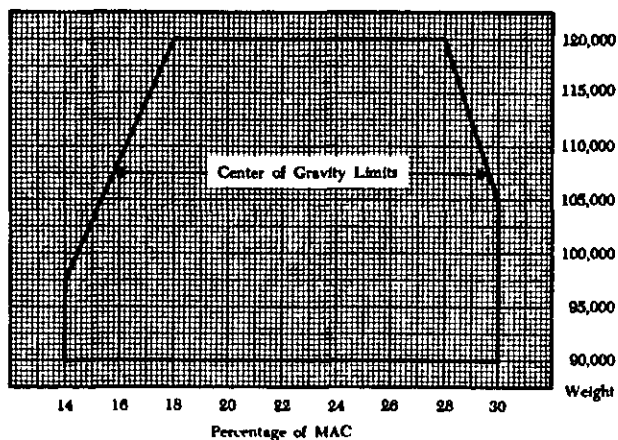

FIGURE 1. Center of gravity limit chart.
20. An airplane has a mean aerodynamic chord of 175 inches and has the center of gravity limits illustrated in Figure 1. What is the center of gravity range when this airplane is loaded to a weight of 112,500 lbs?